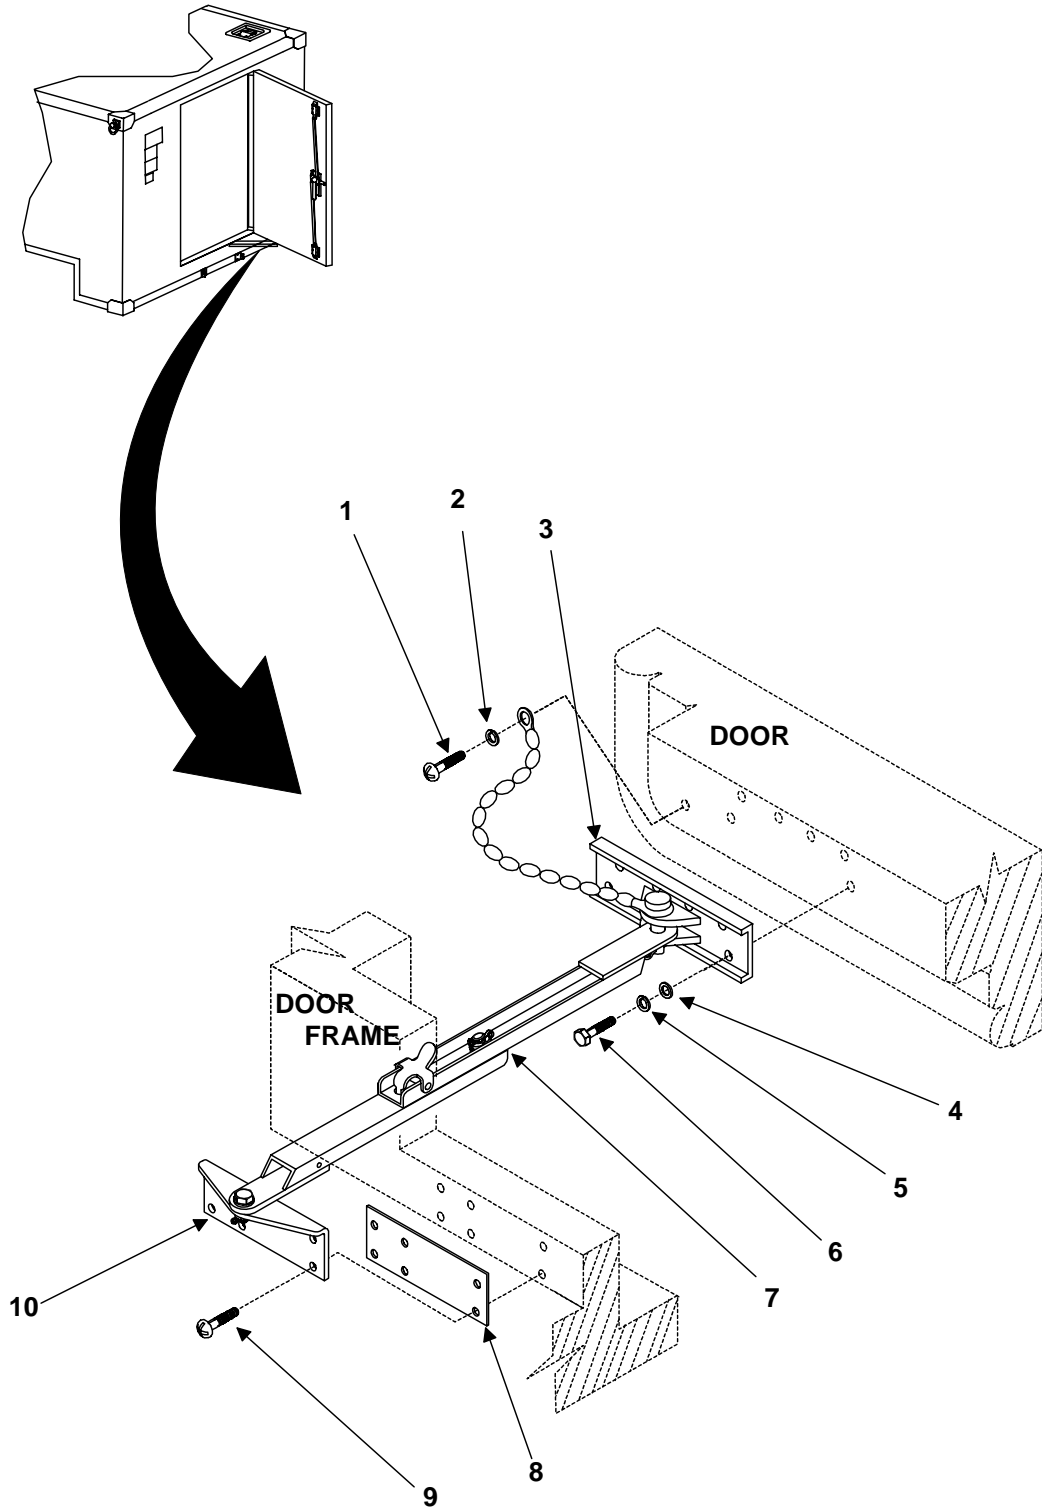

Figure 1. Door Brace Assembly.
3. Install screw (figure 1, item 1) and lock washer (figure 1, item 2).
1. Locate angle door stop (figure 1, item 10) on shelter.
2. Install screws (figure 1, item 9) and shim (figure 1, item 8).